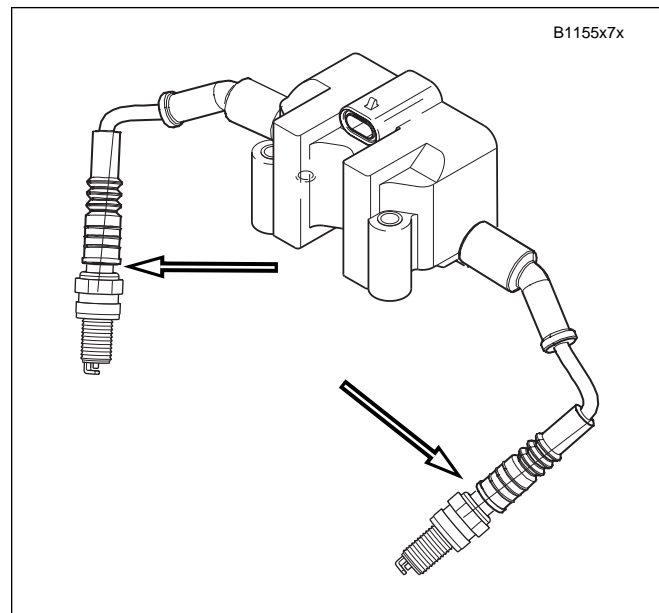

Figure 7-10. Boot Gap Should Not exceed 1/8 in. (3.2 mm)
- *See Figure 7-10. When assembling the spark plug boots onto the spark plugs, make sure the boot is slid all the way down over the spark plug insulator. The gap should not exceed 1/8 in. (3.2 mm).*